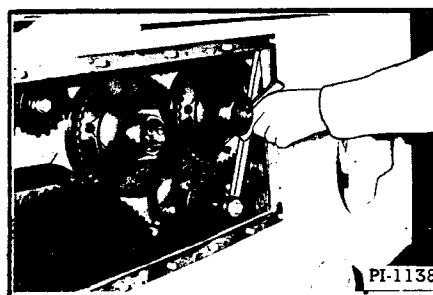

Fig. 26 Checking Sprocket Alignment
11. With a straightedge, check the alignment of the upper jackshaft sprocket with the outside clutch sprockets (Figure 26).
12. With the directional control lever in neutral, check the alignment of the upper jackshaft sprocket with the rear outside clutch sprockets (Figure 26).